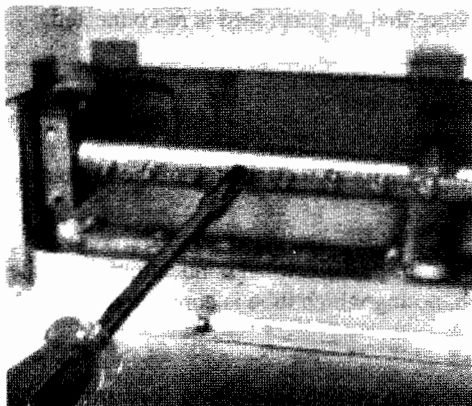

Figure 30
- ☐ Remove the burner injectors as shown in figure 30.